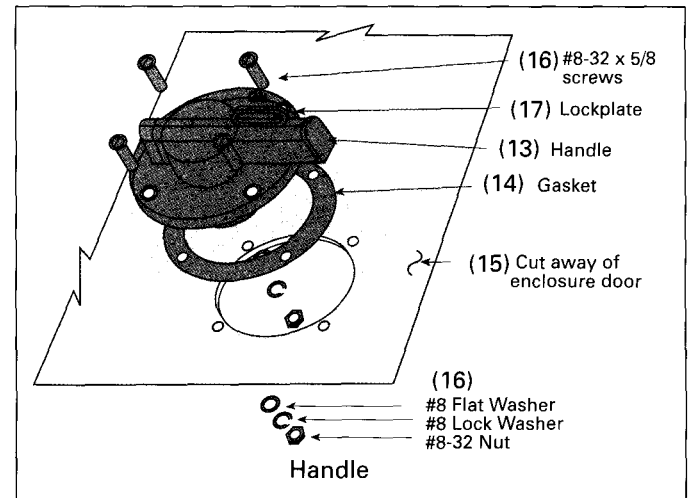

Figure 5
- Attach the handle **(13)** and gasket **(14)** to the enclosure door **(15)** and secure with four bolts, flatwashers, lockwashers and nuts supplied **(16)**. Tighten nuts to 76 in-lbs. (Figure 5).